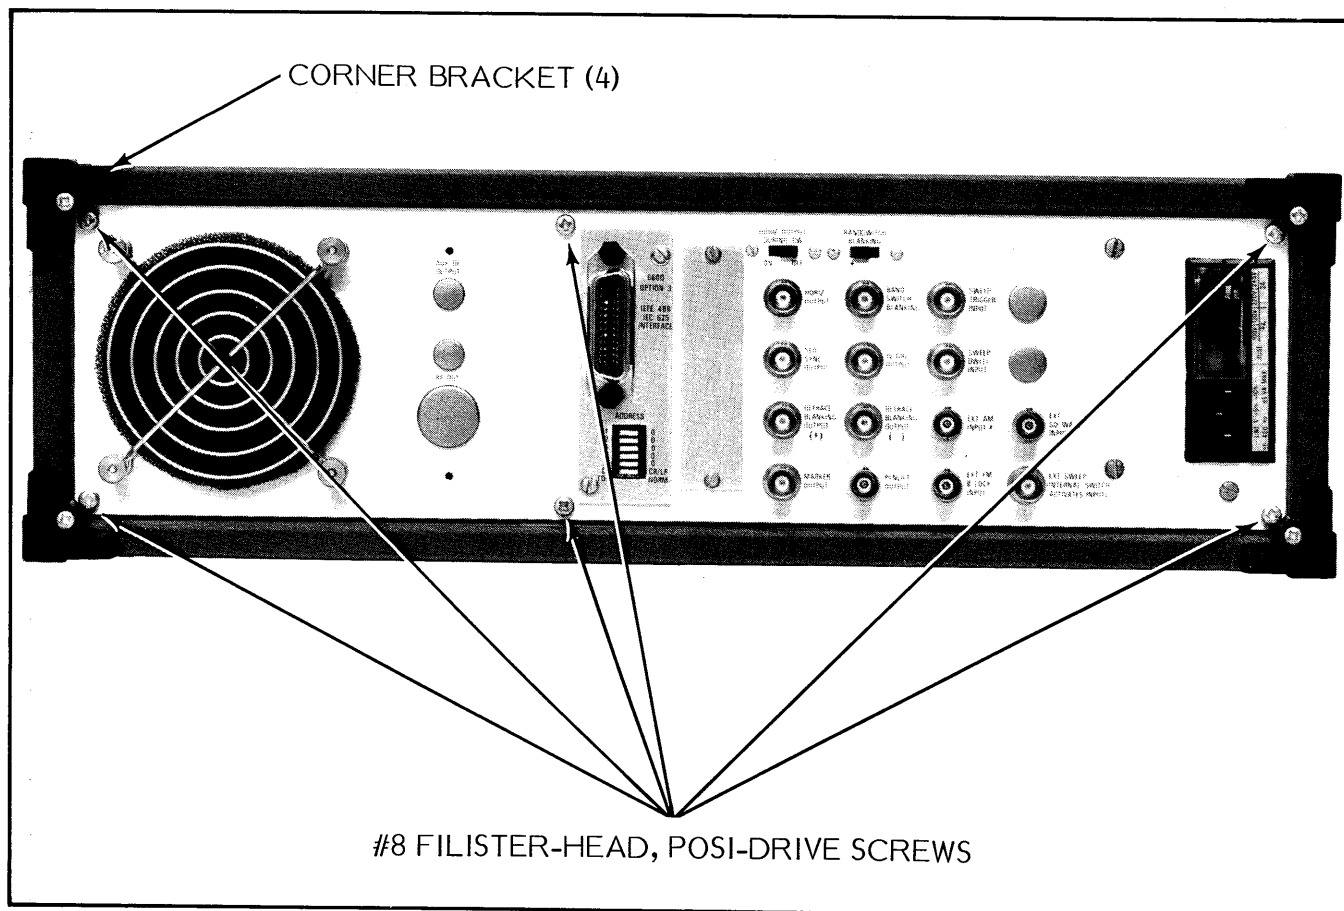

Figure 7-1. 6600A Series Programmable Sweep Generator, Rear Panel
- (a) Remove the four corner brackets from the rear panel (Figure 7-1).
- (a) Remove the 4 corner-brackets from the rear panel of the sweep generator, Figure 7-1.
4. Remove the six #8 fillister-head, posi-drive screws from the rear panel (Figure 7-1).
- (a) Remove the two top, corner brackets from the rear panel of the sweep generator (Figure 7-1).